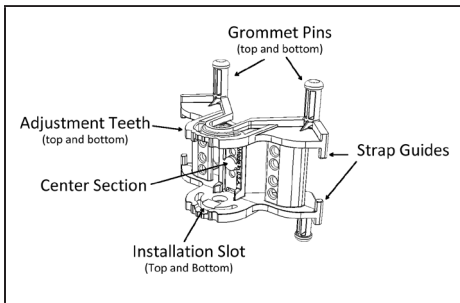
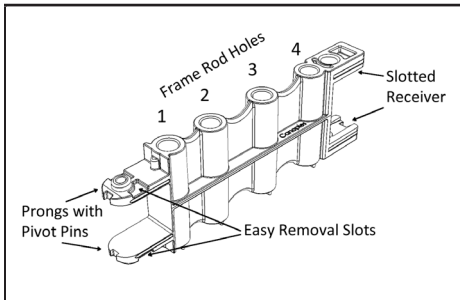

Figure 2: Angle Brace Detail Diagram
Figure 3: Extender Arm Detail Diagram
- Refer to Figure 2 and Figure 3.
- Refer to Figure 3.